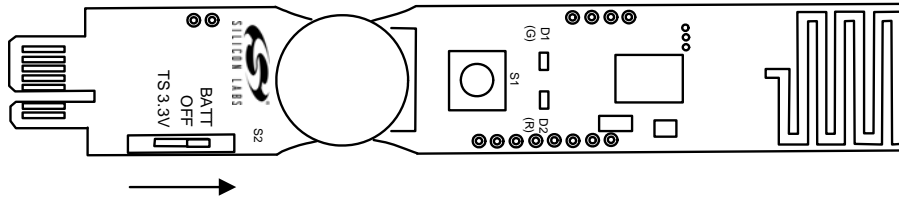

Figure 5. RF USB Node Power On
6. Slide the power switch to BATT as shown in Figure 5.